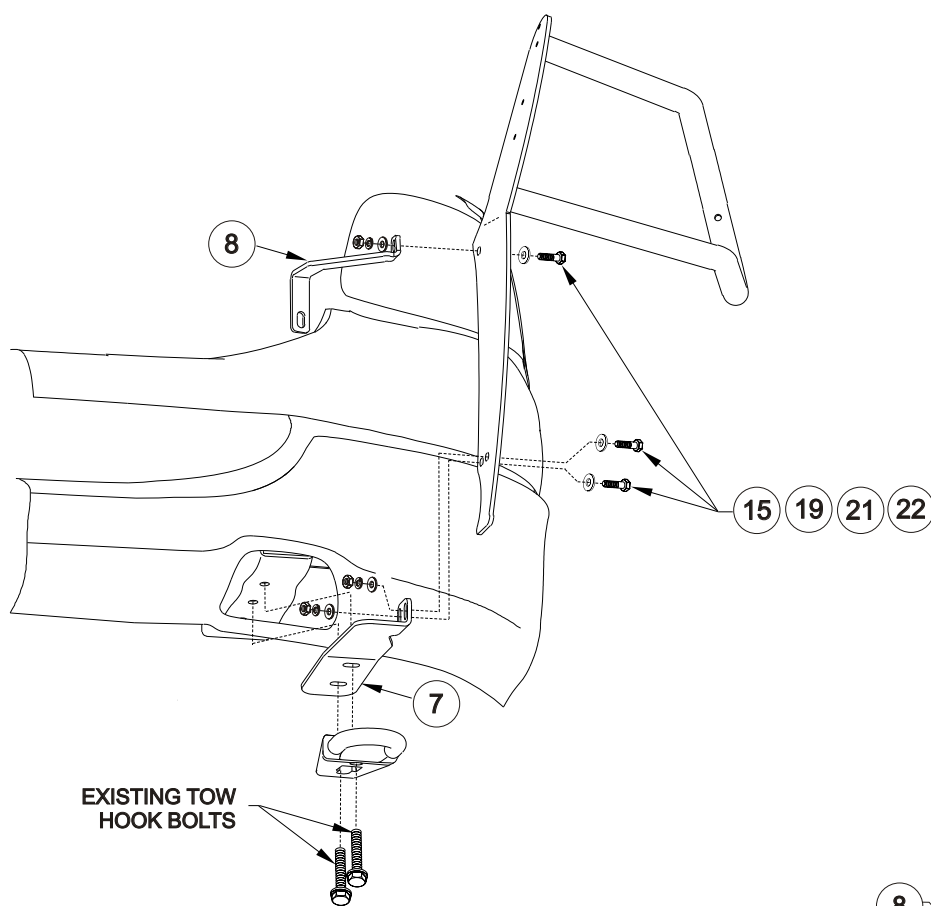

FIGURE 1
STEP 3. Position bottom bracket up to bottom of frame and replace rear tow hook bolt. Slide tow hooks onto rear bolt and reinstall front bolt. Leave loose. **SEE FIGURE 1.** Go to step 5.